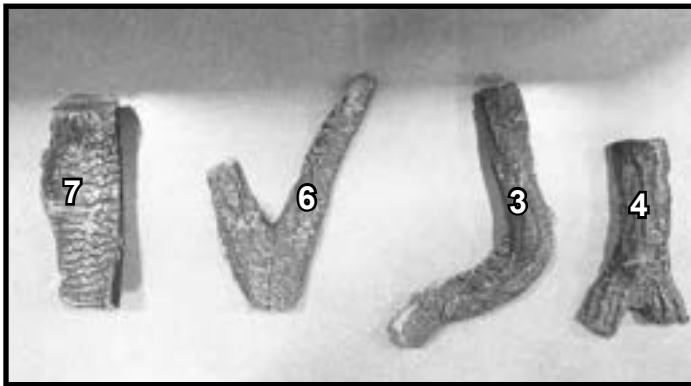

Figure 25. LOGS-COSMO32
**NOTICE:** To simplify the installation process, use Figure 25 to positively identify each individual log before beginning installation.